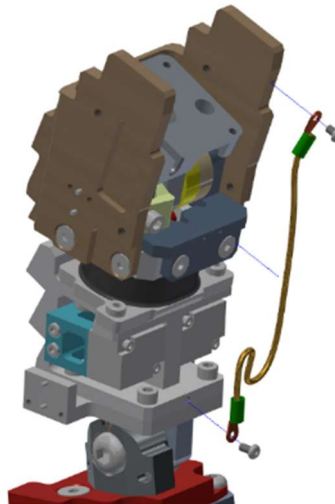

Figure 6-57. Attach ground cable
- 6.3.26 Attach ground cables from the back of the Lower Spine Box Assembly (474-3101-A) to the Upper Spine Box (474-3100-A) using two M4 X 0.7 X 6 BHCS (Figure 6-57). Secure the lumbar spine ground strap to the Thoracic Spine Load Cell Flex Joint Adaptor Plate using an M4 X 8 BHCS on the right side of the plate.